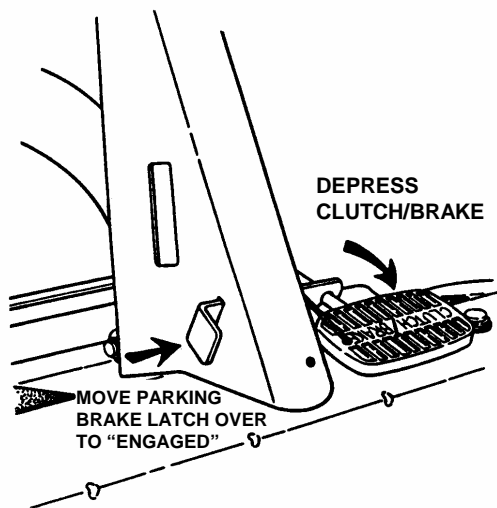

FIGURE 4.8
4. Depress clutch/brake pedal all the way down. Move and hold the park brake latch in the "ENGAGED" position and release the clutch/brake pedal to set the park brake. See Figure 4.8.